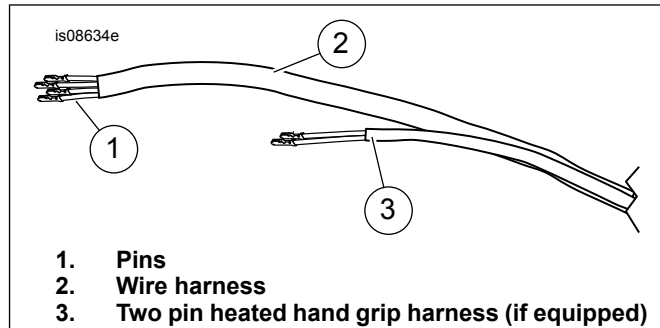

Figure 1. Pins and Wire Harness
1. See Figure 1. Stagger pins (1) so they are not in the same locations along harness (2) bundle.